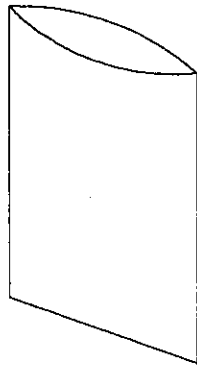

Fig.1
- Put products of 100pcs. in the antistatic electricity bag. (Fig. 1)